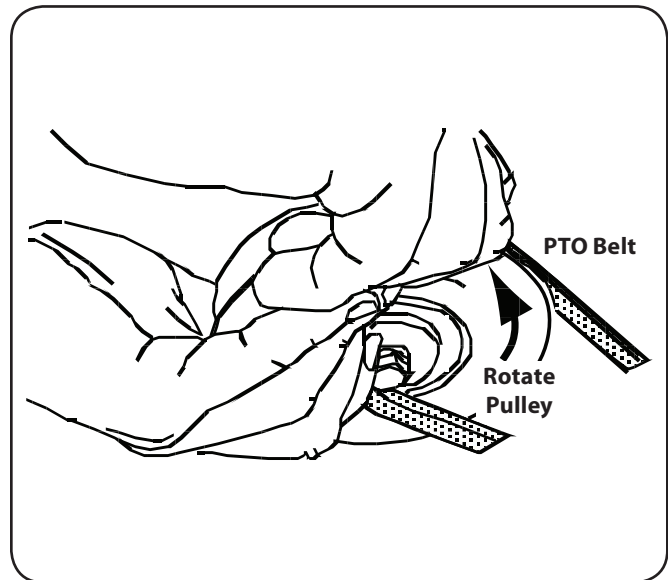

Figure 7-8
10. Place the belt into the engine pulley. See Figure 7-8.